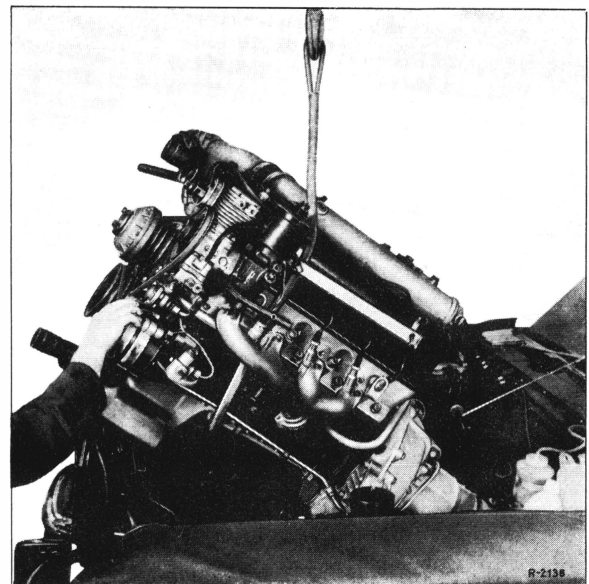

Fig. 00-1/6
20. Connect up the propeller shaft at the transmission (Fig. 00-1/5).